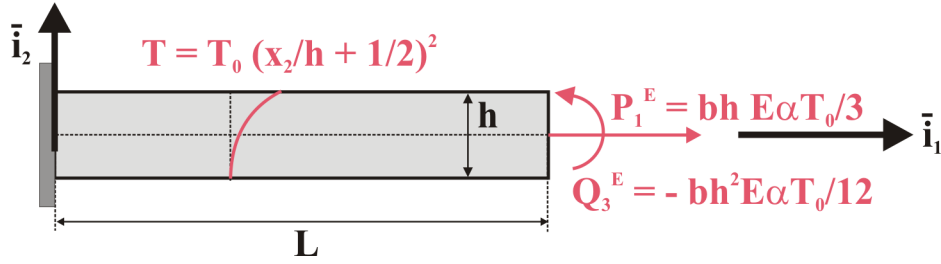

Figure 3: Cantilevered beam under parabolic thermal gradient.
Consider a bi-cantilevered beam subject to a parabolic temperature distribution. This problem is similar to that depicted in fig. 3, except that the beam is now cantilevered at both ends. (1) Find the axial and transverse deflection of the beam under the thermal loading. (2) Find the thermal stress distribution in the beam.